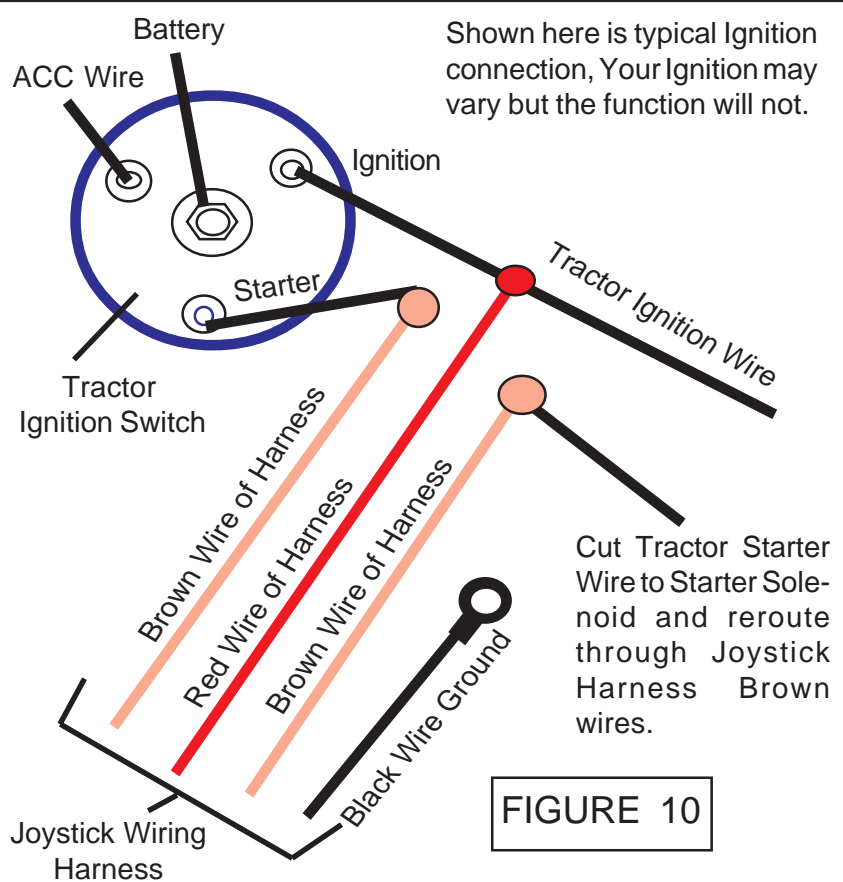

FIGURE 10
Remove ignition switch access panel or ignition switch if panels are not provided in dash. Identify the "Ignition "ON" / "OFF" Positive" wire. This wire must be connected to a wire that is only charged when ignition switch is on and dead when ignition is off. Connect power supply wire as close to the switch as possible. Do not connect wire into wire that will be overloaded because something else is connected to it. If power supply wire is connected to a wire that is positive when switch is off and operator leaves the push pull switch on it will drain the tractor battery (See Figure 10).
leading from ignition switch to starter solenoid of the tractor, cut the wire in two as close to ignition switch as is reasonable and still have room to work. Strip off 1/4" to 3/8" of insulation from each wire. Connect the two brown wires of harness to this wire. Solder the connection and insulate with a good heat shrink tubing (See Figure 10)
8. Installation of the wiring harness in now completed. Recheck all wires according to color and instructions for that color (**See Figure 10 & 11**).